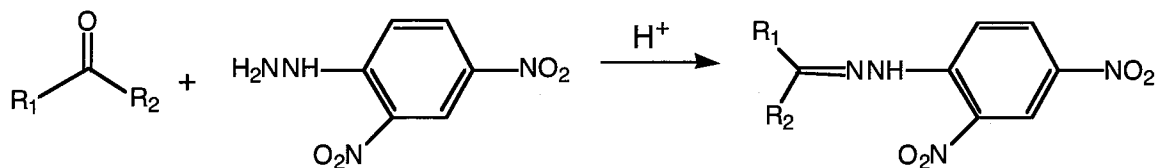

Figure V.1. Formation of 2,4-dinitrophenylhydrazone derivative.
4. Preparation of solid derivatives. One of the most valuable derivatives of aldehydes and ketones are the hydrazones. They are formed by reaction of the carbonyl compound with a hydrazine (Figure V.1). Hydrazines react quickly and quantitatively with aldehydes and ketones. This is of great utility to derivatizations as often only a tiny amount of the unknown is available. The most commonly used hydrazine for derivatization is 2,4-dinitrophenyl hydrazine, as it gives a solid product in virtually all cases.